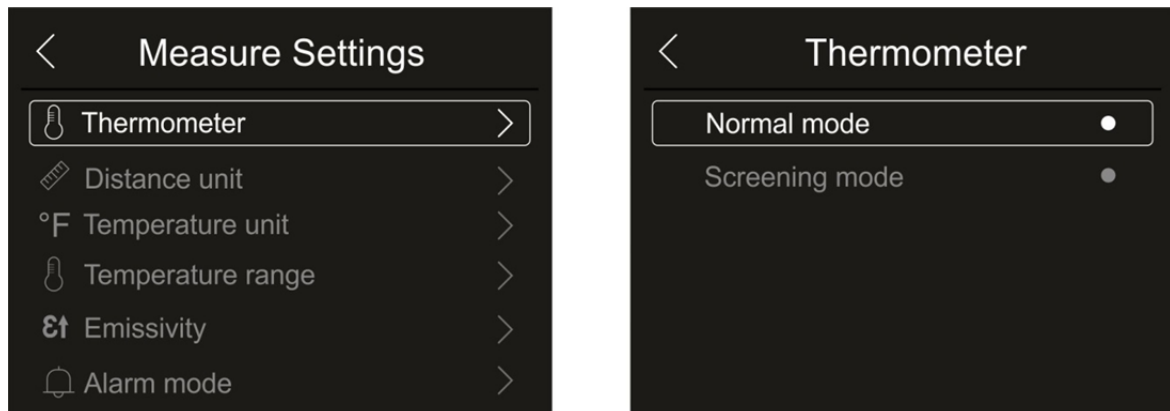

Fig. 23: Menu Thermometer
1. Touch the item “Thermometer”. The screen in Fig. 23 – right side appears on the display: